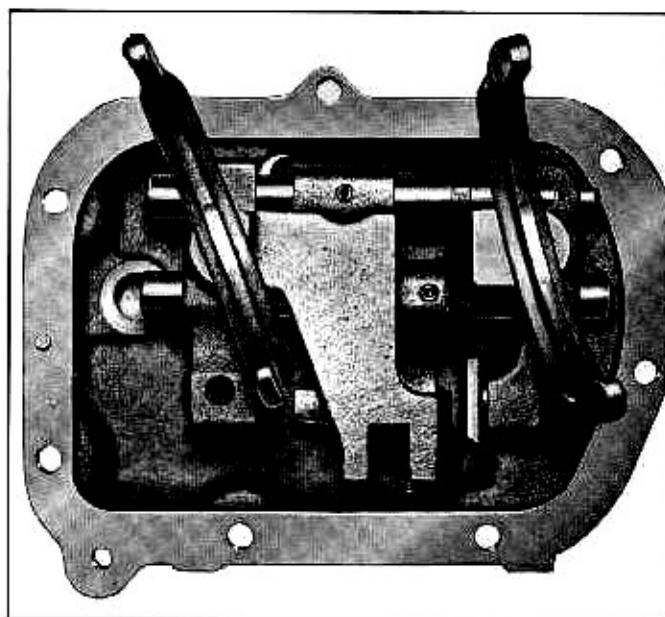

Fig. 10A—Side Cover, Shifter Shafts, Heads and Forks
1. Shift the cover shift head and fork assemblies in neutral detent (center) positions (fig. 10A).